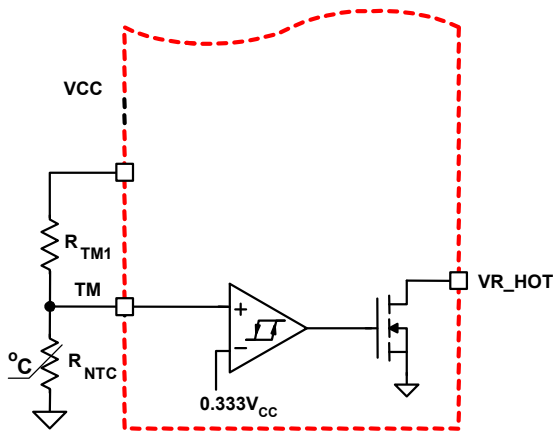
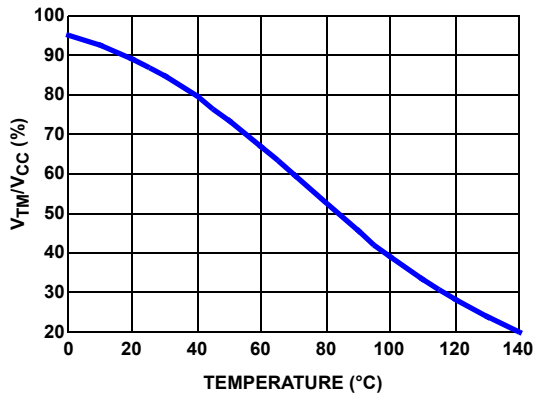

FIGURE 14. BLOCK DIAGRAM OF THERMAL MONITORING FUNCTION
FIGURE 15. THE RATIO OF TM VOLTAGE TO NTC TEMPERATURE WITH RECOMMENDED PARTS
The diagram of the thermal monitoring function block is shown in Figure 14. One NTC resistor should be placed close to the power stage of the voltage regulator to sense the operational temperature, and one pull-up resistor is needed to form the voltage divider for the TM pin. The NTC thermistor should be placed next to the current sense element of a phase that will remain active when  $PSI\#$  is asserted low. As the temperature of the power stage increases, the resistance of the NTC will reduce, resulting in the reduced voltage at the TM pin. Figure 15 shows the TM voltage over temperature for a typical design with a recommended  $6.8\text{k}\Omega$  NTC (P/N: NTHS0805N02N6801 from Vishay) and  $1\text{k}\Omega$  resistor  $R_{TM1}$ . We recommend using these resistors for accurate temperature compensation.
Based on the  $V_{CC}$  voltage, ISL6336B converts the TM pin voltage to a 6-bit digital signal for temperature compensation. With the non-linear A/D converter of ISL6336B, the TM digital signal is linearly proportional to the NTC temperature. For accurate temperature compensation, the ratio of the TM voltage to the NTC temperature of the practical design should be similar to that in Figure 15.
1. Properly choose the voltage divider for TM pin to match the TM voltage vs temperature curve with the recommended curve in Figure 15.